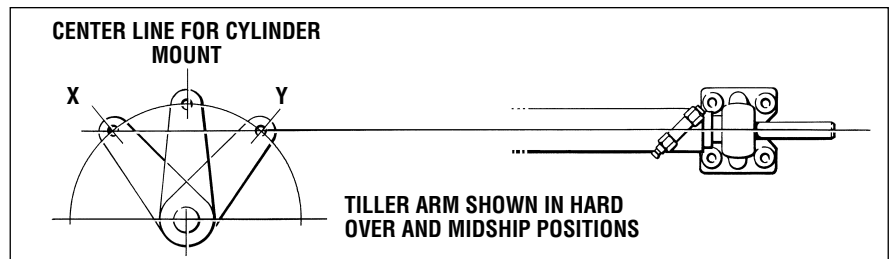

Figure 5-16.
Figure 5-16 illustrates the correct cylinder alignment, with the cylinder centerline defined by an imaginary line drawn through the tiller arm hole at both hard over positions. Use table 5-2 to determine the required tiller arm length (dimension 'A') for the application, based on required rudder torque and steering angle. Not all possible cylinder mounting configurations are shown, but all share the same key dimensions.
1. Determine the tiller arm length (dimension 'A') and foot bracket location (dimension 'B') from table 5-2. If the tiller arm length is already set, use figure 5-16 to locate the cylinder, keeping angles X and Y equal over the 7" stroke of the cylinder.
Figure 5-16 illustrates the correct cylinder alignment, with the cylinder centerline defined by an imaginary line drawn through the tiller arm hole at both hard over positions. Use table 5-3 to determine the required tiller arm length (dimension 'A') for the application, based on required rudder torque and steering angle. Not all possible cylinder mounting configurations are shown, but all share the same key dimensions.
1. Determine the tiller arm length (dimension 'A') and foot bracket location (dimension 'B') from table 5-3. If the tiller arm length is already set, use figure 5-16 to locate the cylinder, keeping angles X and Y equal over the 7" stroke of the cylinder.